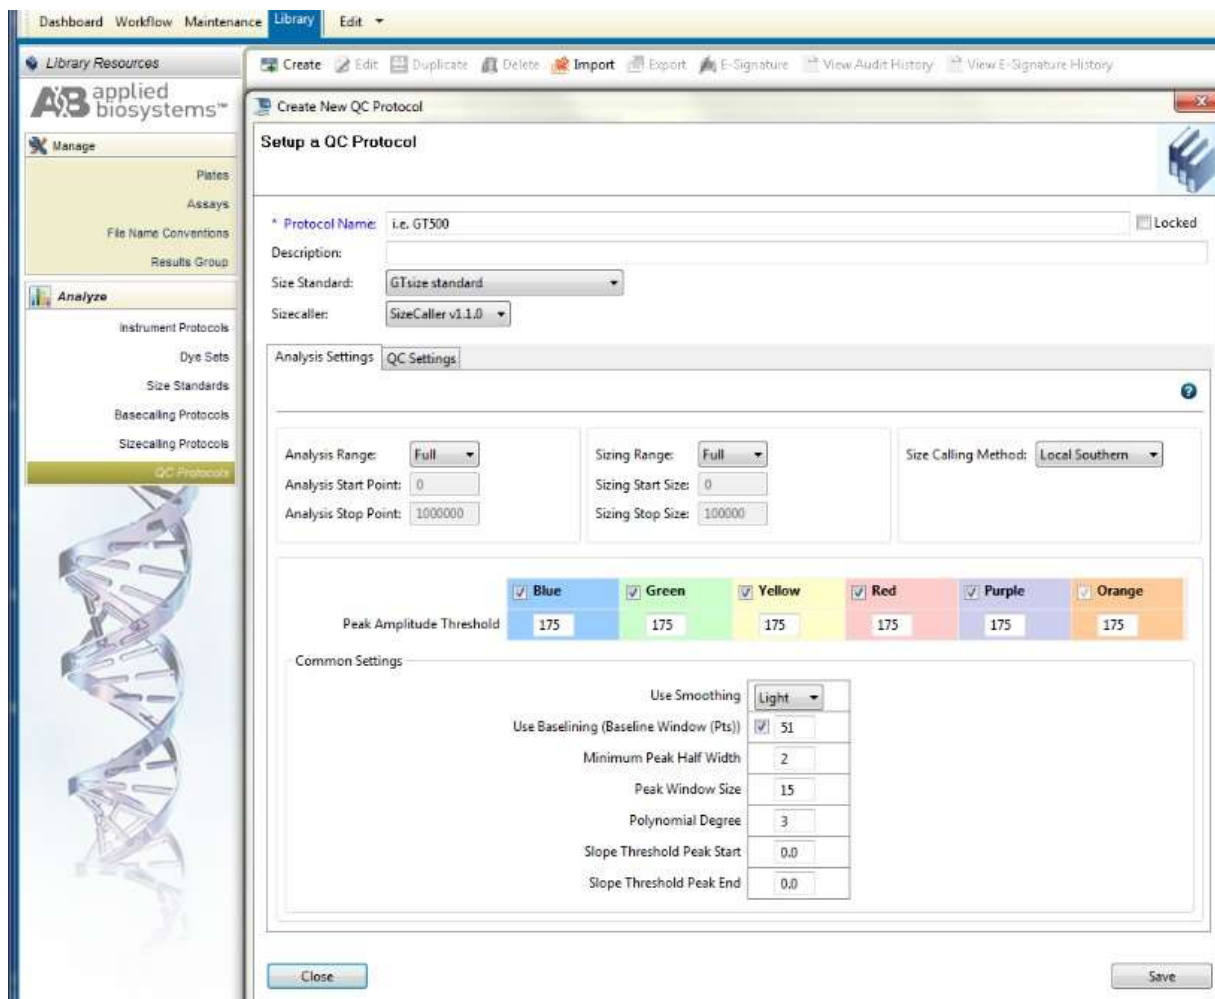

Figure 7. Screenshot for the “Create New QC Protocol” window on Applied Biosystems 3500 Data Collection software
- c) Select “Create” (Figure 7).